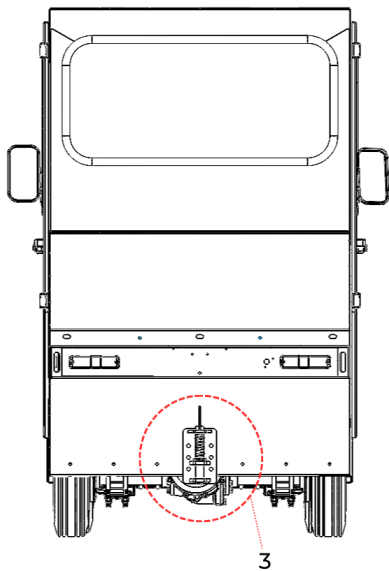

Figure 44. Hitch Mounting.
- Hitch mounting area (3) (see Figure 44).